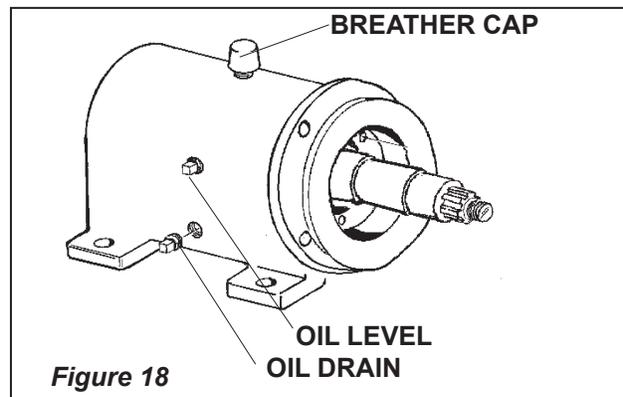

Figure 18
7. Drain oil from gear case. (Figure 18)